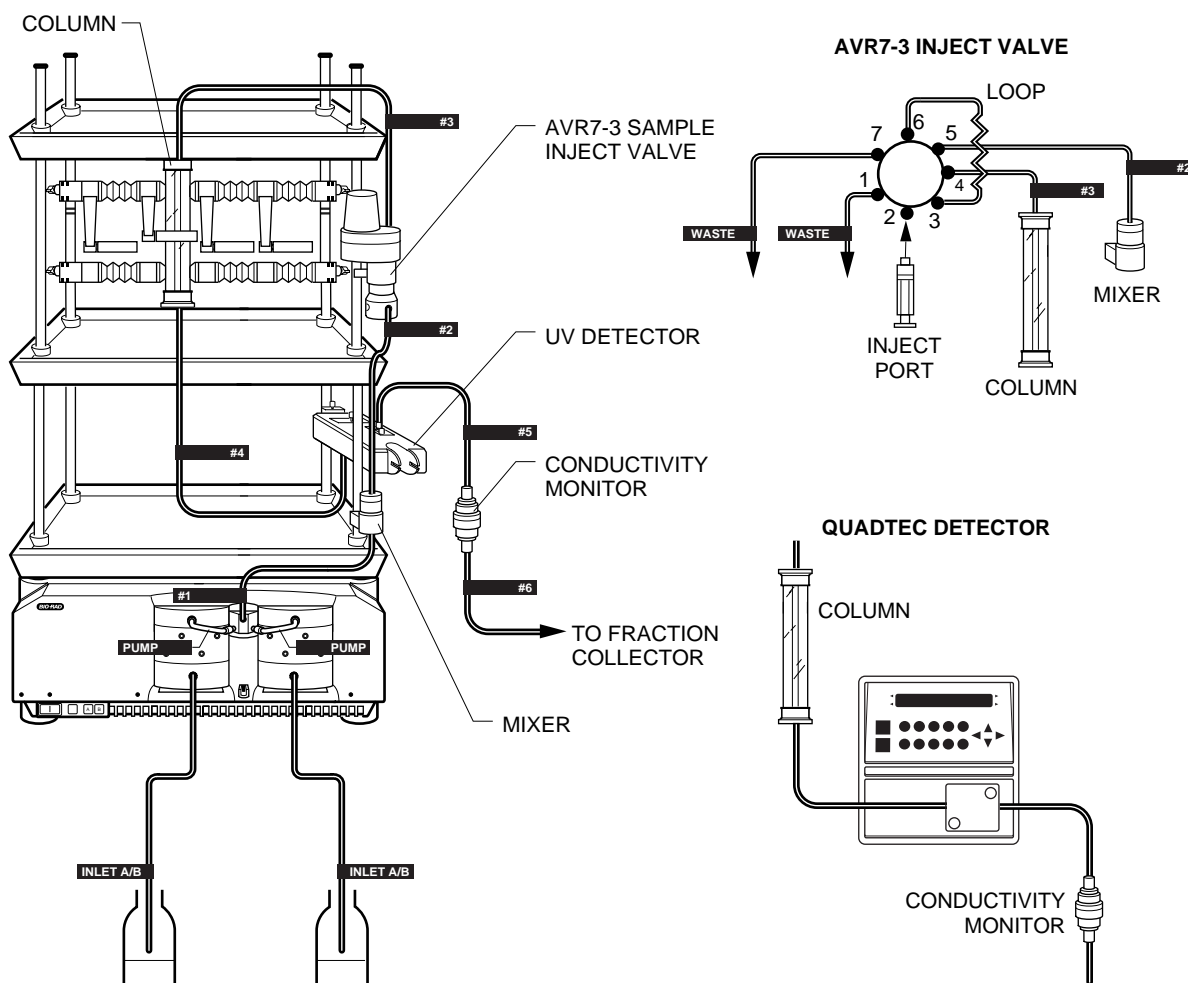

Figure 4-1. System Plumbing using Tubing Kit from Fittings Kit
The Fittings Kit comes with fittings, tubing, and an F10 Tubing Kit, with the necessary tubing cut and fitted for each system connection (see Figure 4-1). Complete description of each of these items is provided with the Fittings kit.
The Fittings Kit includes an F10 tubing kit that includes all tubing required for a basic installation. Refer to figure 4-1.
- Place opposite end of tubing in solution bottles A and B. Refer to figure 4-1. If an SV5-4 is in use, attach the pump inlet tube to its common port. Refer to section 2.6.3, page 2-31.